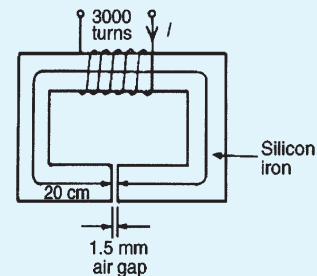

Figure 7.7
4. For the magnetic circuit shown in Fig. 7.7 find the current I in the coil needed to produce a flux of 0.45 mWb in the air gap. The silicon iron magnetic circuit has a uniform cross-sectional area of 3 cm^2 and its magnetization curve is as shown on page 83.